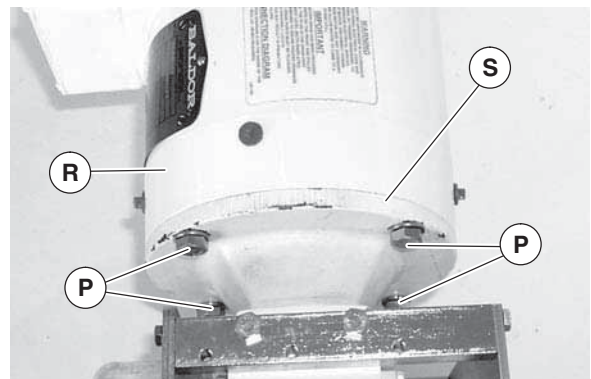
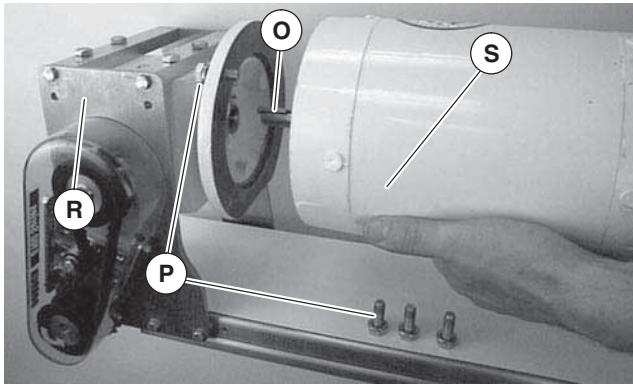

Figure 40
Figure 41
- Remove screws and washers (Figure 40, item P). Detach motor (R) from gear reducer (S). Retain motor output shaft key (Figure 41, item O).
5. Install key (Figure 41, item O) in keyway. Slide new motor (R) into gear reducer (S). Secure motor with screws and washers (P).